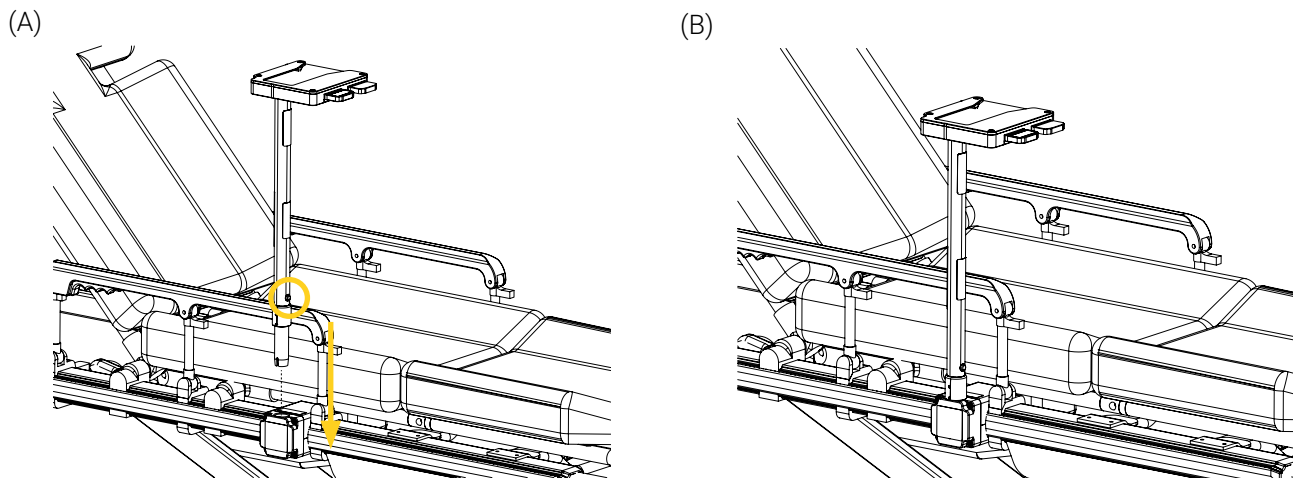

Figure 15: Installing the XTPA Auxiliary Pole in the AP Socket
1. Align the XTPA Auxiliary Pole and AP Socket, ensuring that the quick release button located at the bottom of the pole is facing patient foot end (Figure 15 A).
2. Insert the mounting system vertically in the AP Socket while paying close attention not to wedge the power cords or tubing, then press down until it locks (Figure 15 B).